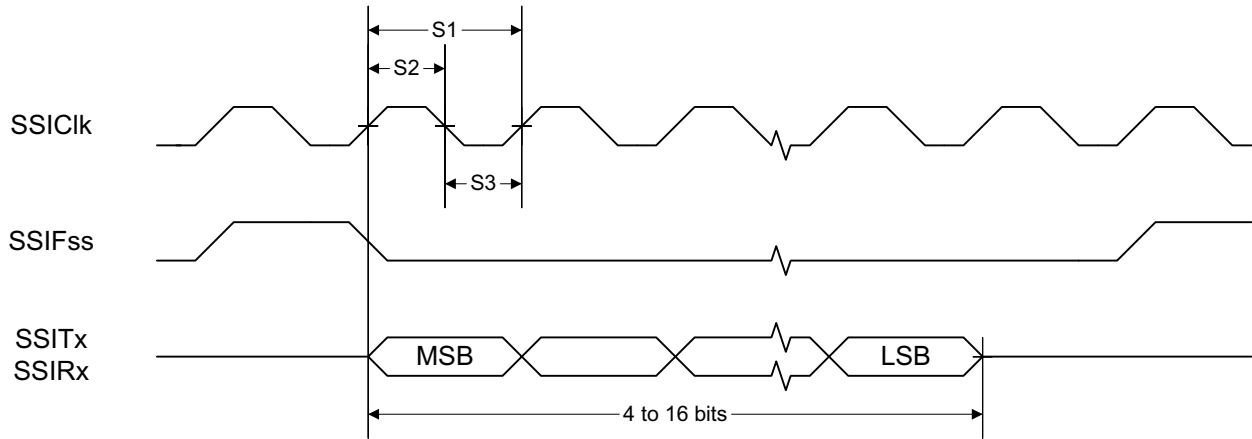
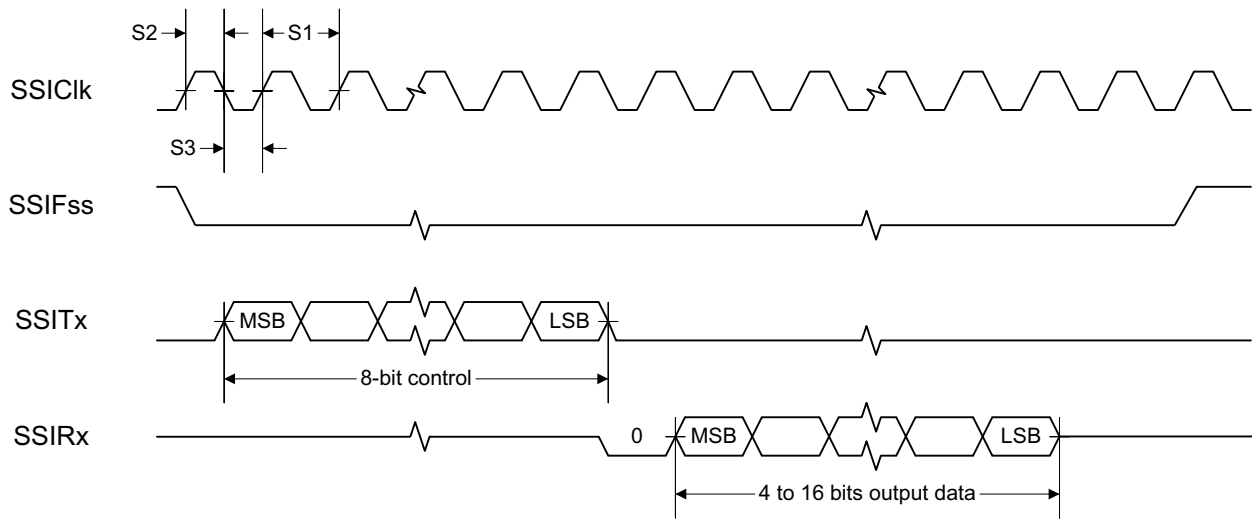
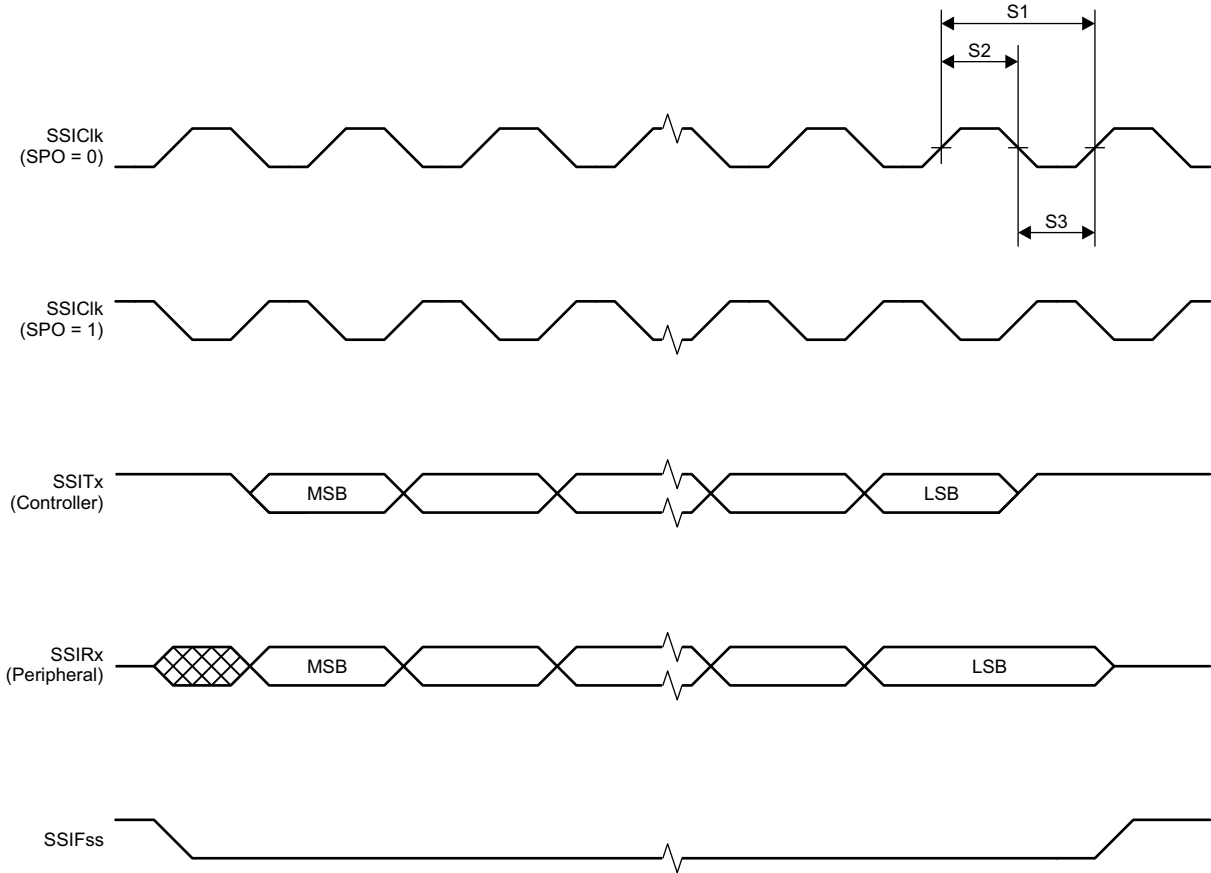

Figure 8-1. SSI Timing for TI Frame Format (FRF = 01), Single Transfer Timing Measurement
Figure 8-2. SSI Timing for MICROWIRE Frame Format (FRF = 10), Single Transfer
图 8-3. SSI Timing for SPI Frame Format (FRF = 00), With SPH = 1
(1) Refer to SSI timing diagrams Figure 8-1, Figure 8-2, and Figure 8-3.
(2) When using the TI-provided Power driver, the SSI system clock is always 48 MHz.